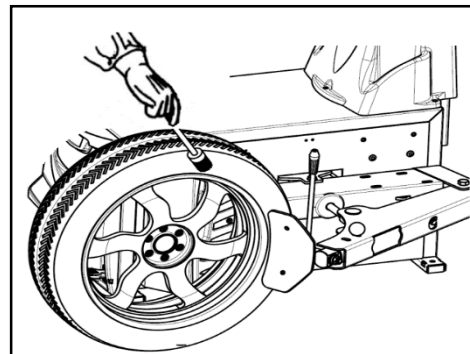

FIG7
- Place the tire between then bead breaking blade and tire pressing runner clog (FIG7). Then step down the tire press pedal (FIG2-13) to detach the rim from the tire. Repeat the same operation on the other parts of the tire to make the tire completely detached from the rim.